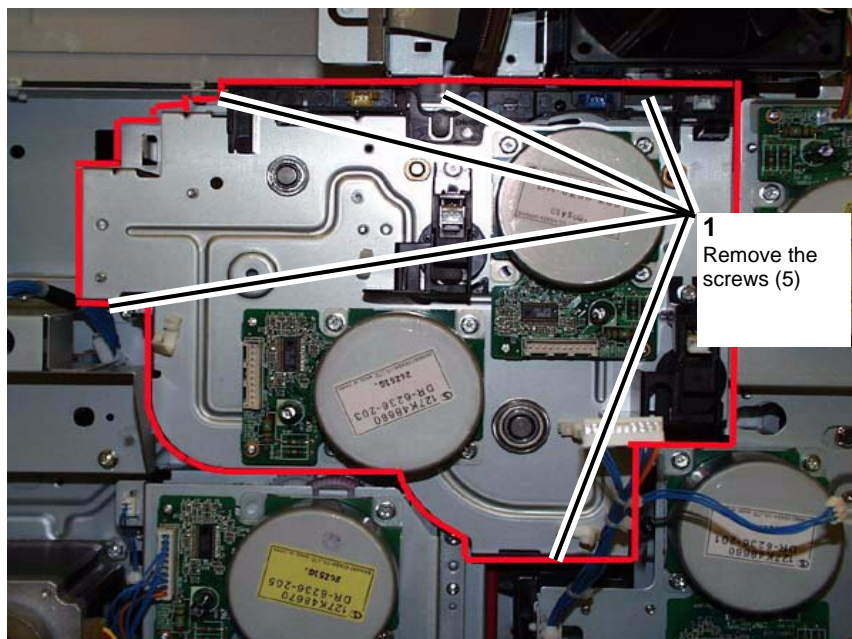

Figure 5 Preparing to remove the Drum Drive Assembly
9. Remove the screws (5). (Figure 5)